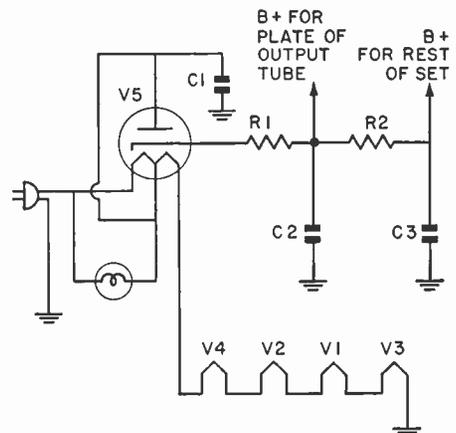

Fig. 1. Typical AC-DC Power Supply.
*Theory of Operation.* The two conductor power line cord is wired so that one lead is connected to the rectifier plate and the other to the B— circuit of the receiver. A typical ac-dc power supply is illustrated in Fig. 1.
Returning to the practical ac-dc rectifier circuit of Fig. 1, the power line ac voltage operating at a frequency of 60 cycles per-second alternate-
Ordinarily, this current flow would stop momentarily during the negative half of each cycle since the rectifier tube will not conduct when the plate is negative. The rise and fall of this ripple current would cause an extremely loud hum at a frequency of 60 cycles per-second were it not for the action of electrolytic filter condensers, C2 and C3, in Fig. 1. These large capacity filter condensers will hold a charge and act as the B supply source while the rectifier is not conducting. When the voltage output of a rectifier becomes greater than the voltage across C2, current flows through the rectifier recharging the filter condensers. When the rectifier tube is not conducting the charged condensers will supply the power requirements for the receiver. The large charge in the filter condensers will be reduced but little before the rectifier tube conducts again.
When a leaky output filter condenser or a short circuit in the receiver decreases the load resistance, excessive current will pass through R2 and the voltage drop will increase to approximately 50 volts. In addition to this high voltage drop, the 1200 ohm filter resistor in Fig. 1 will start to overheat. A complete short may quickly burn up R1. Its usual value is between 27 and 47 ohms at one-half watt. This small resistor acts as a fuse because it will burn out an overload, opening the circuit and preventing rectifier tube damage. An interesting